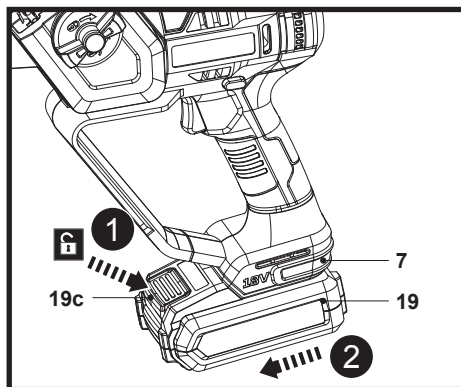

Fig. 9
1. Press the release button (19c) to unlock the latch of battery pack (19) (Fig. 9, step 1).
2. Slide out the battery pack (19) from the battery docking port (7) (Fig. 9, step 2).